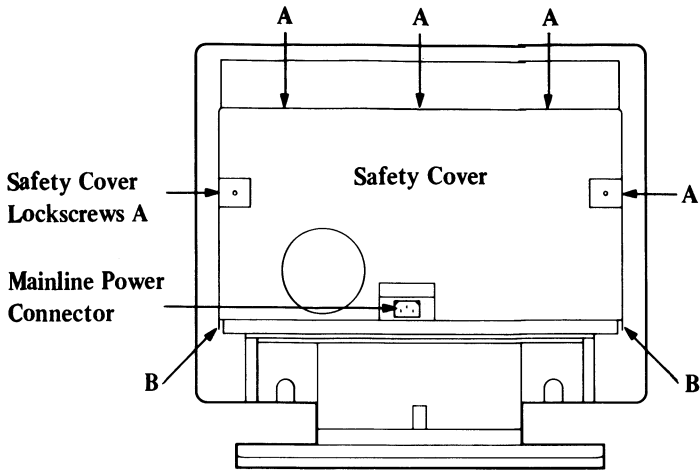

Figure 5-5. Safety Cover Lockscrews
3. Remove the five safety cover lockscrews (marked A, see Figure 5-5 on page 5-21).